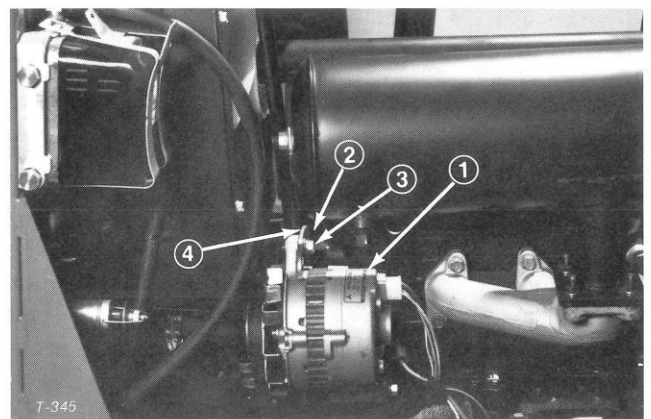

Figure 53
3. Loosen bolt securing brace to engine and bolt securing alternator to brace (Fig. 53).
4. Insert pry bar between alternator and engine and pry out on alternator (Fig. 53).